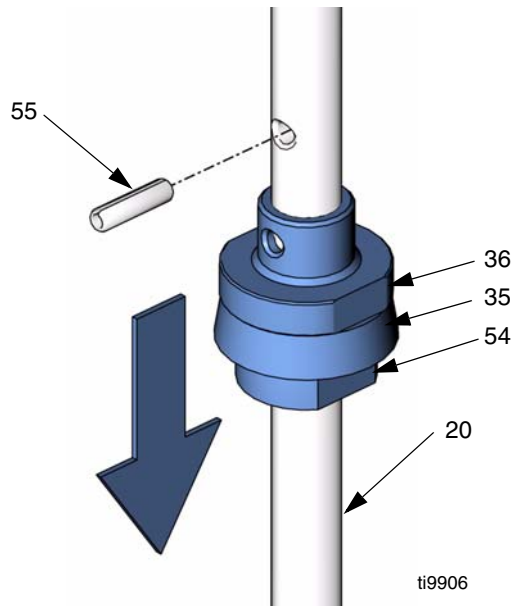

FIG. 21
- Remove spring pin (55) and slide upper fluid piston assembly down and off the transfer shaft (20). See FIG. 21.